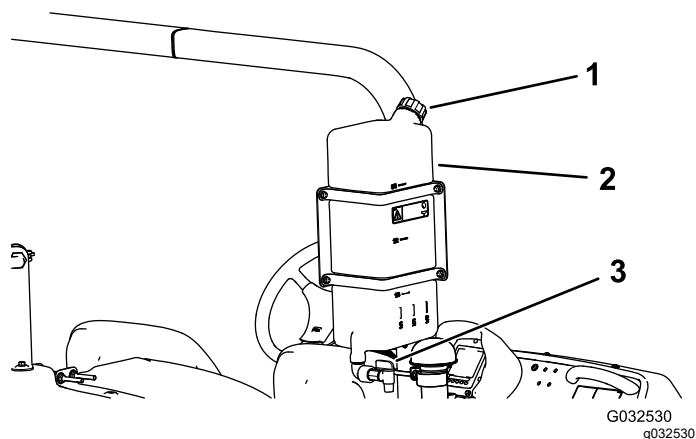

Figure 31
- To fill the tank, unscrew the cap at the top of the tank, fill the tank with fresh water, and install the cap (Figure 31).
- To open the fresh-water tank spigot, turn the lever on the spigot (Figure 31).